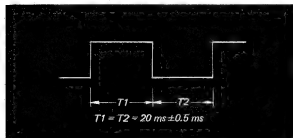

Fig. 7-12. 25 PG Pulse phase check
2. Adjust R495 so that T1 and T2 are 20 ms \pm 0.5 ms (50% duty cycle) as shown in Fig. 7-12.